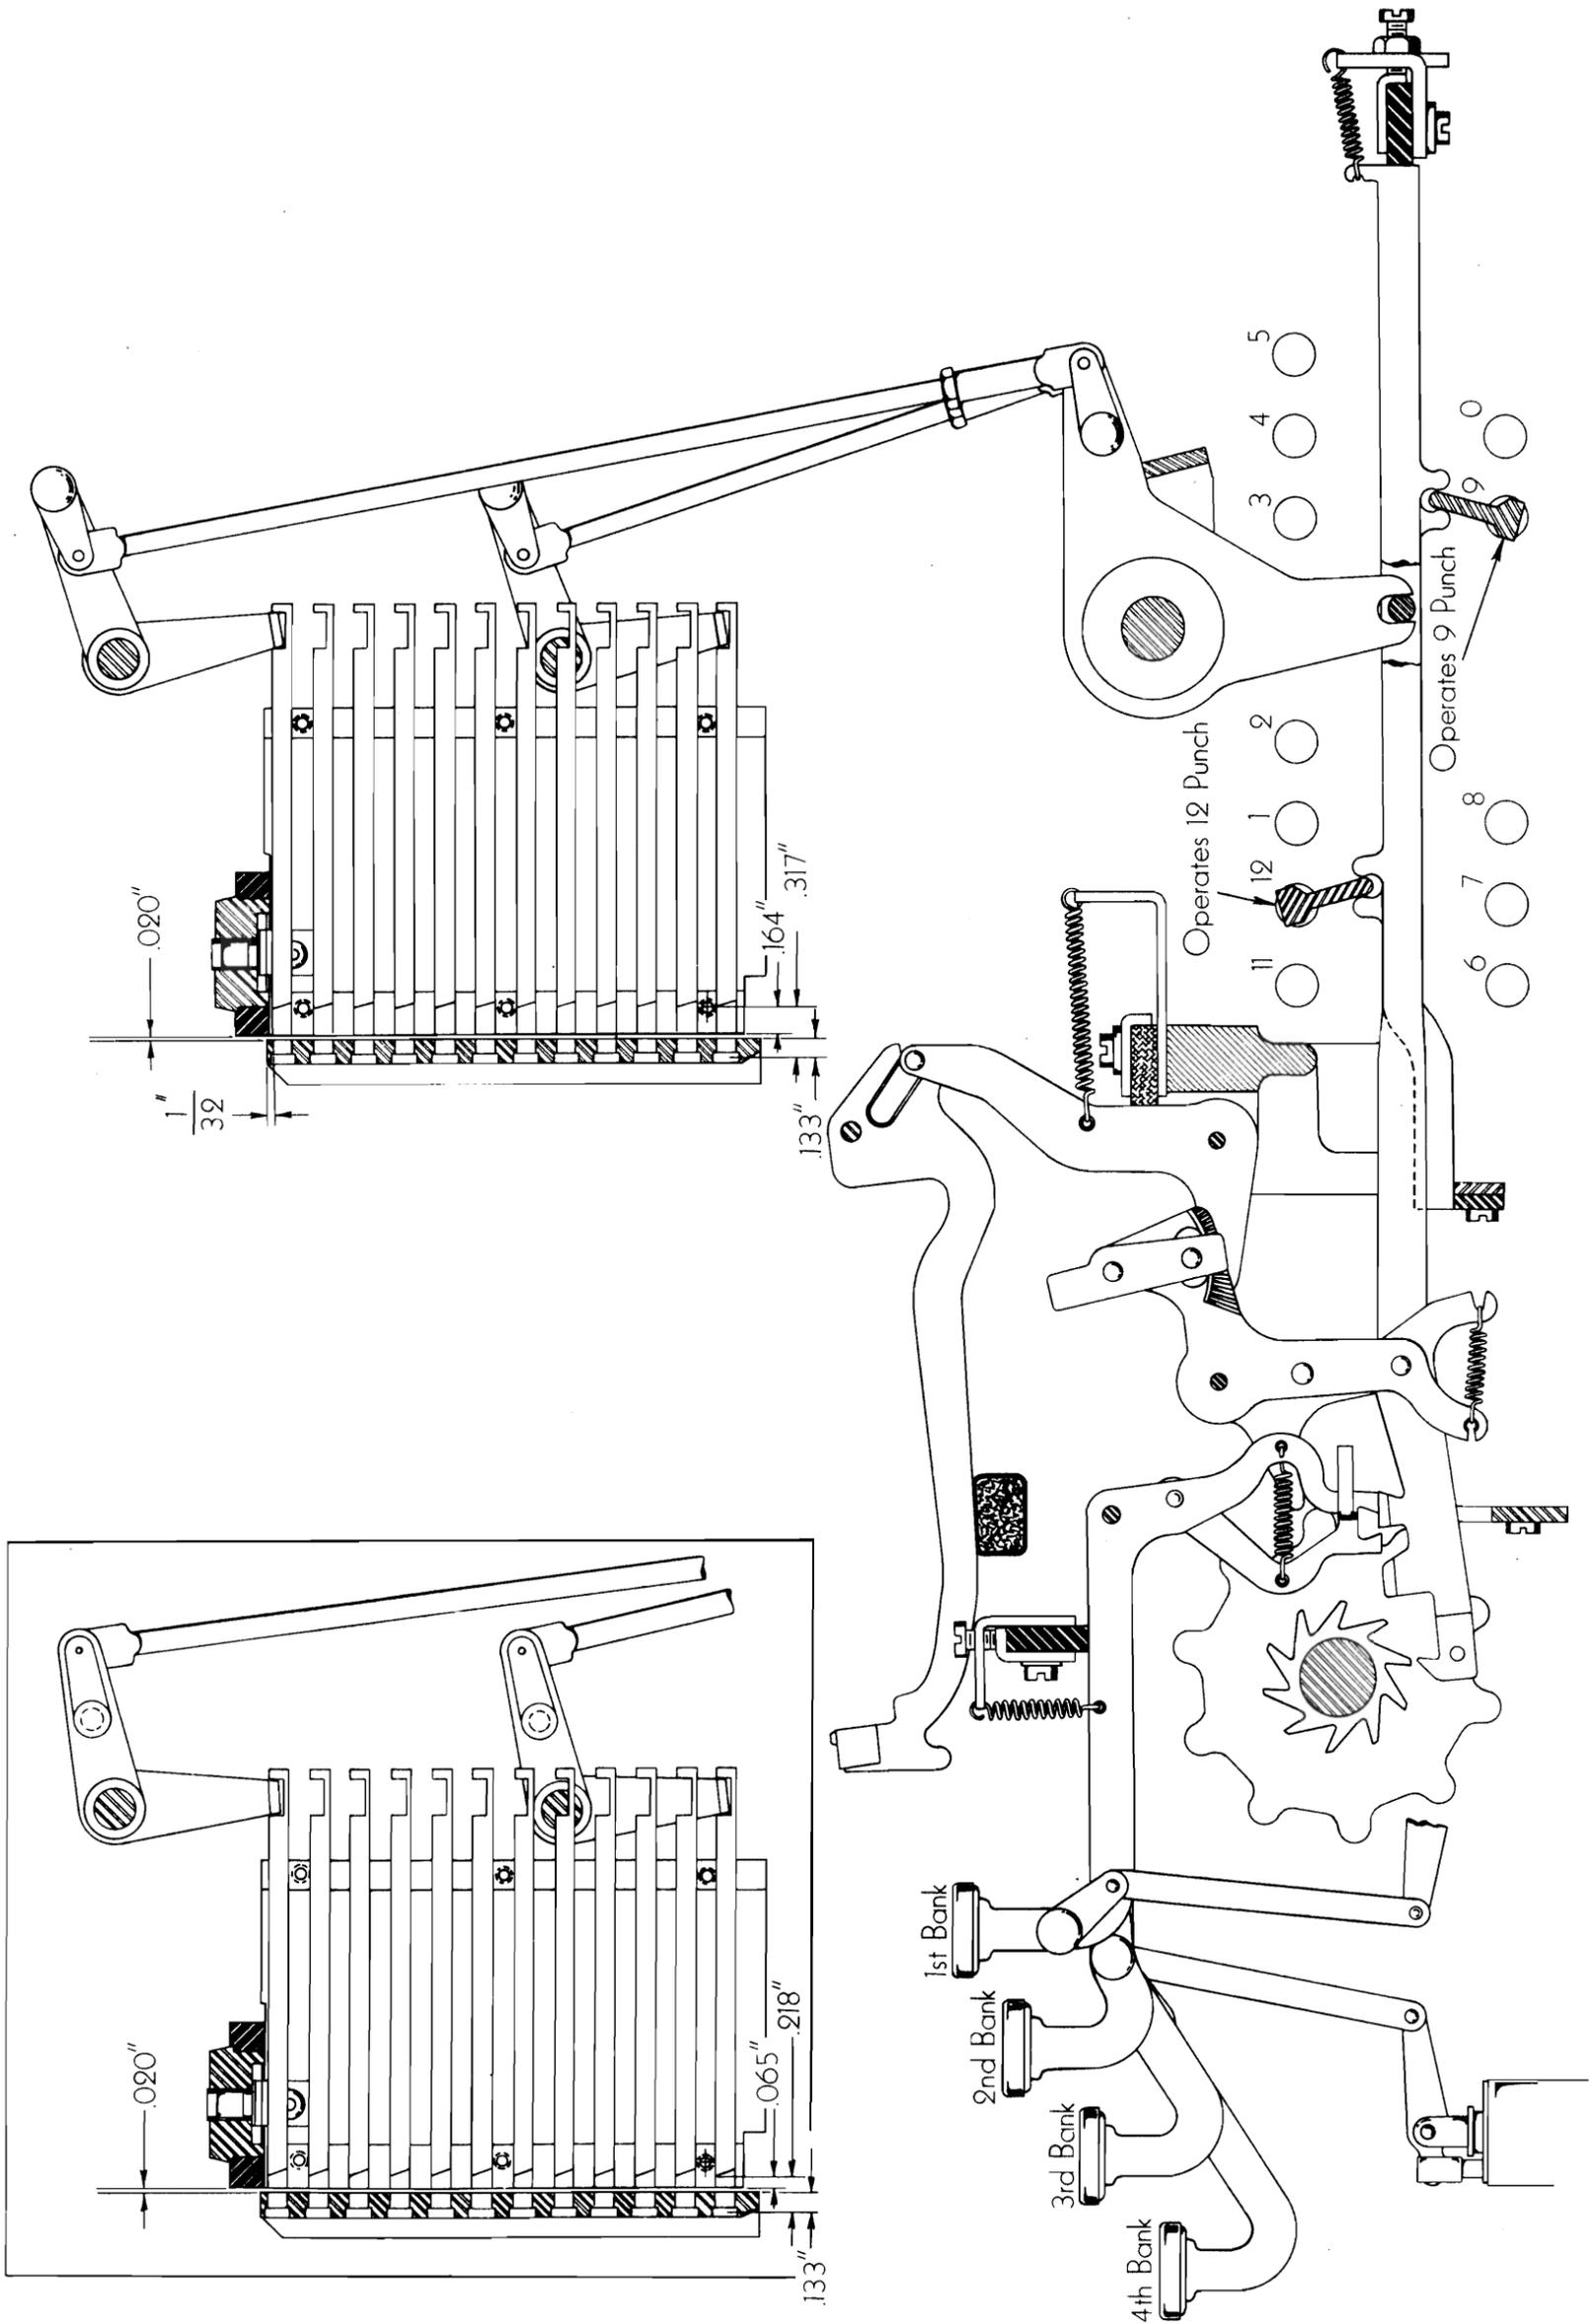

FIGURE 10
Punch Travel—Figures 10 and 11
2. The total punch travel should be .317": This figure applies to 036 machines having the top of the punch operating link connected approximately midway on the horizontal portion of the striker arm. (See Figure 10).
Note: A few early 036 machines were built on which the punch connecting link was fastened at the extreme rear end of the striker arm. (See insert, Figure 10.) On these machines the total punch travel is .218". The turnbuckle on the punch connecting link should be adjusted so that the tip of the punch in normal position rests .065" back of the face of the punch guide block. This adjustment results in .133" travel of the punch tip into the die. Clearance between die and guide block is .020". On this style of machine each half turn of the turnbuckle results in a change of approximately .012" in the position of the punch.